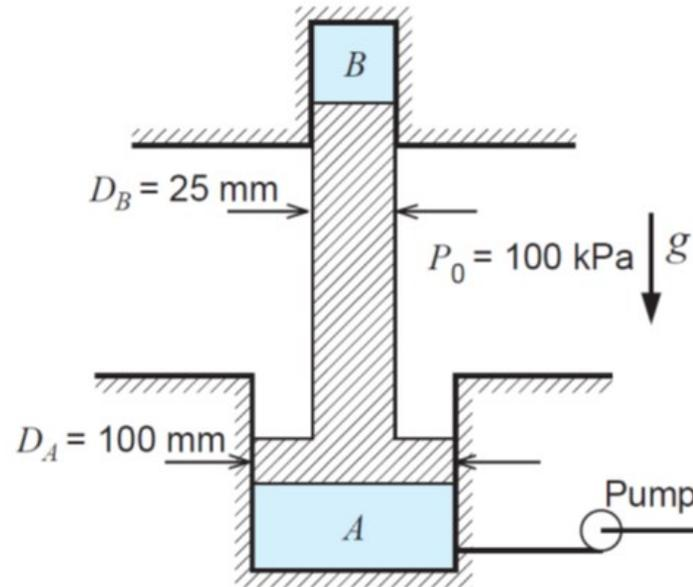

FIGURE P2.88
- 2.88** Two cylinders are connected by a piston, as shown in Fig. P2.88. Cylinder *A* is used as a hydraulic lift and pumped up to 500 kPa. The piston mass is 25 kg, and there is standard gravity. What is the gas pressure in cylinder *B*?